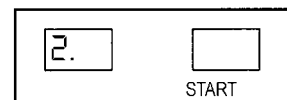

Fig. 30
- The balancer will spin, then stop and display 'step 2' (Fig. 30).